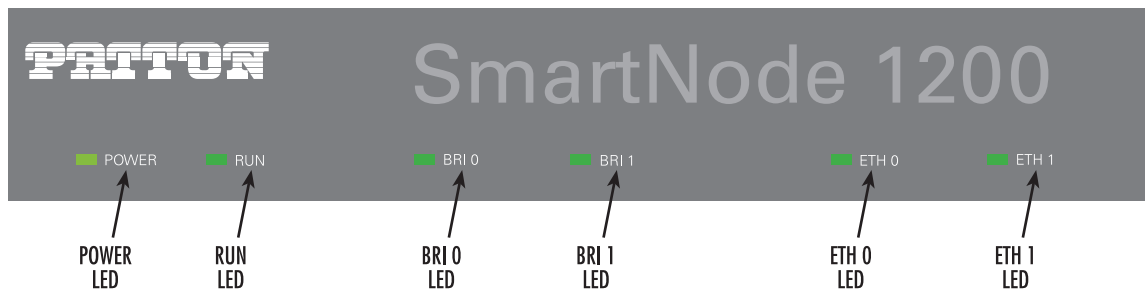

Figure 43. SmartNode 1200 front panel LEDs
4. Verify that the green *Power* LED is lit (see figure 43).